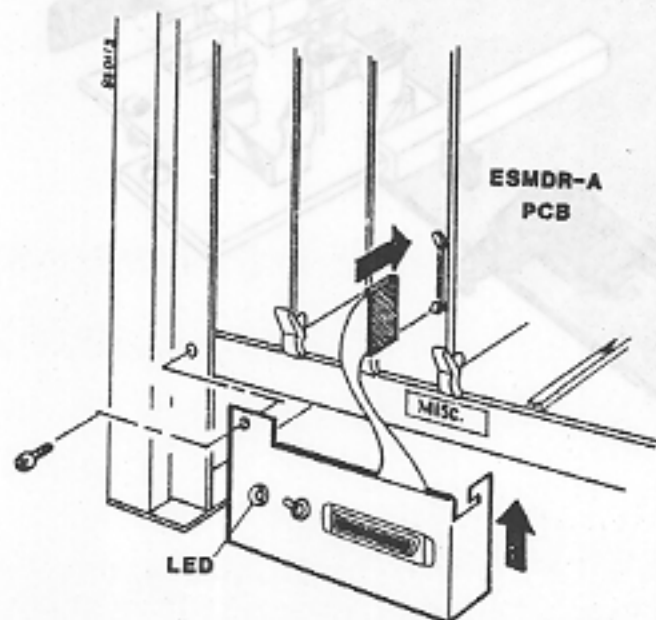

Figure 5-3 Mounting Cable and Jack Assembly to the KSU.
3.01 Mount the cable and jack assembly to the KSU and secure with the screw as shown in figure 5-3.
3.02 Plug the cable connector of the cable and jack assembly into the A-SMDR-A connector with the RED wire at the top (figure 5-3). Spread the retaining clips on the A-SMDR-A to allow entrance of the mating connector.